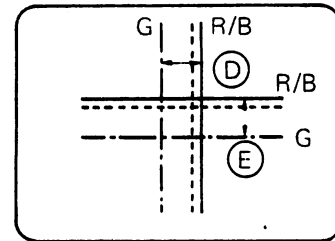

Figure 5-14
- g. Gradually move the knobs of two 6-pole magnets until there is no misconvergence among the red, green and blue vertical lines at the center of the screen as shown in Figure 5-14.
- h. Then, keeping the angle of two 6-pole magnets constant, gradually move them at the same time until there is no misconvergence among the red, green and blue horizontal lines at the center of the screen as shown in Figure 5-14.